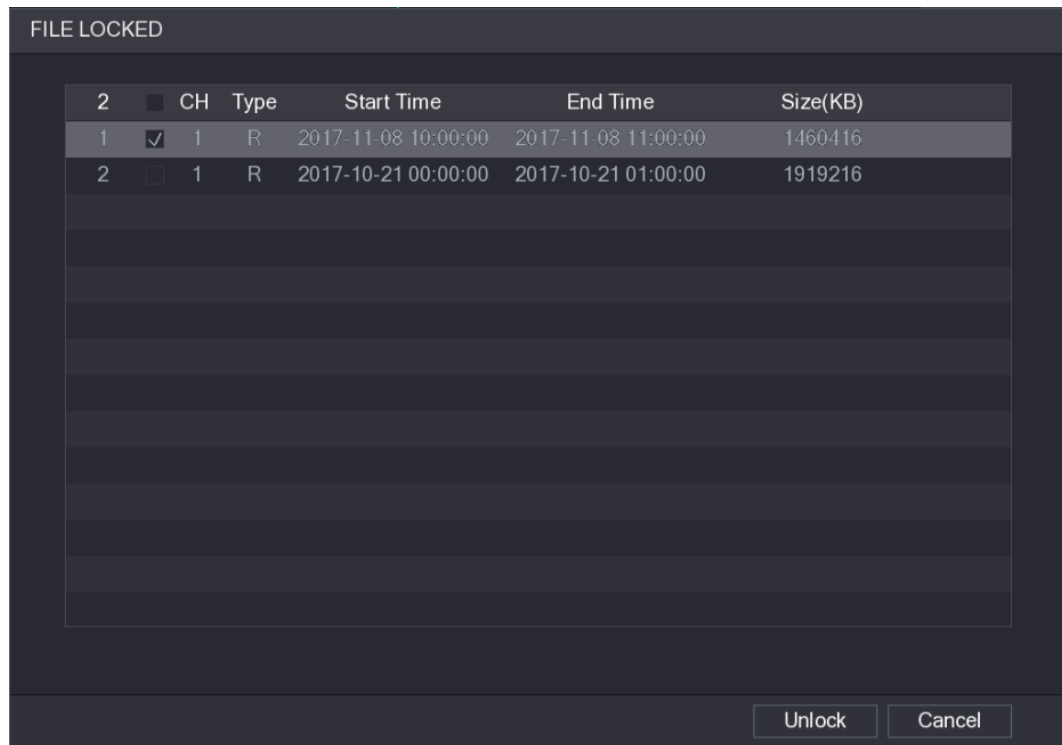

Figure 5-115
- To unlock the recorded video, in the **FILE LOCKED** interface, select the video, and then click **Unlock**. See Figure 5-115.